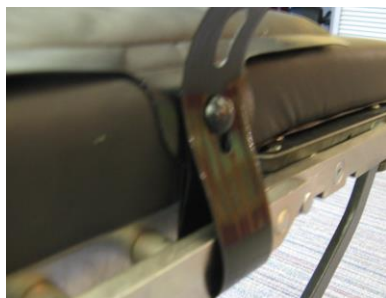

Figure 2
3. Attach the Warming Mattress straps to the operating table. See Figure 2.